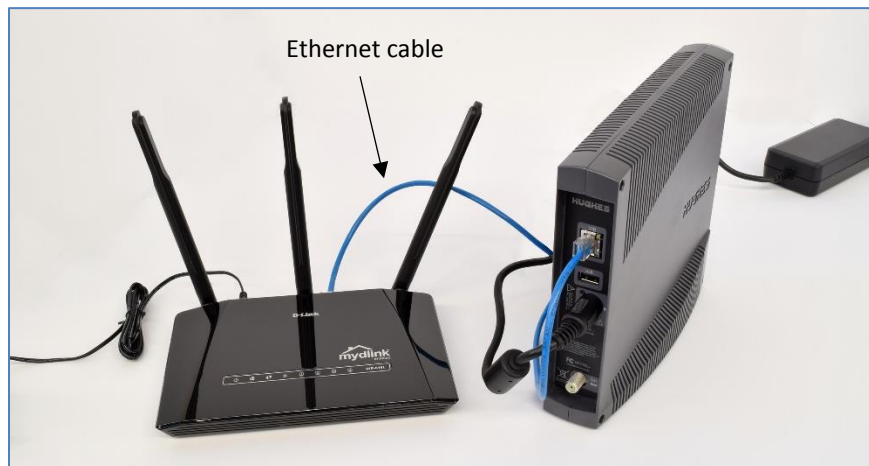

Figure 25: Connecting the modem and Wi-Fi router
4. Connect the router to LAN Port 1 on the modem via an Ethernet cable, as shown in Figure 25. This figure shows the HT1100, but the process for other modems will be similar.